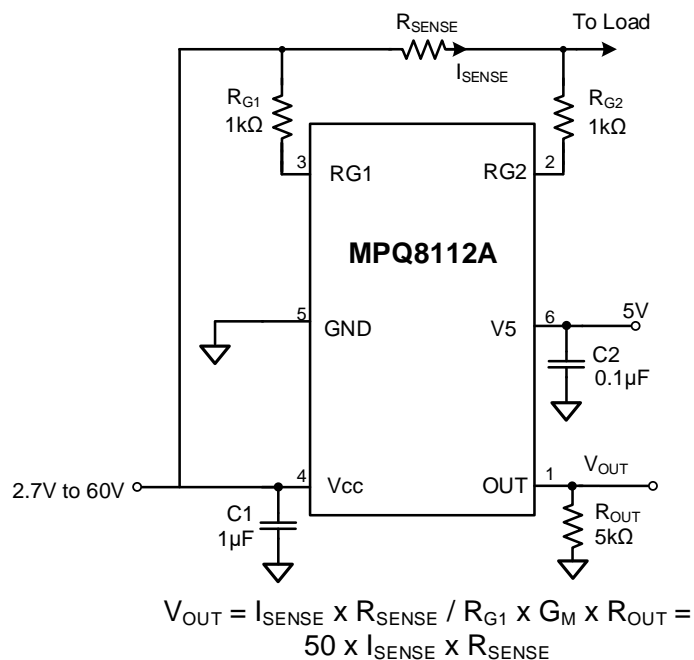

**Figure 7: MPQ8112 ( $V_{CM} \leq V_{CC}$ )**
10) The recommended PCB layout is based on Figure 7.